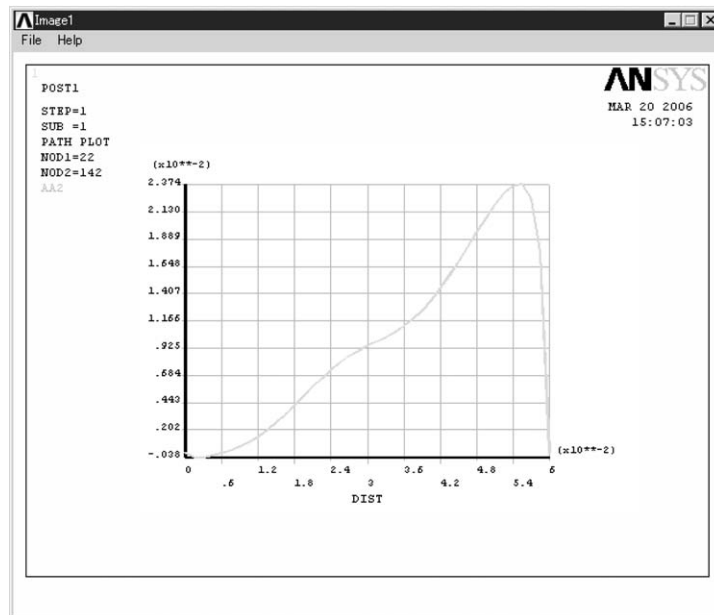

Figure 5.65 ANSYS Graphics window.
- (1) Select **AA** in **Lab1-6** box and click **OK** button. Then the calculated result for the defined path **AA2** appears on **ANSYS Graphics** window as shown in Figure 5.65.